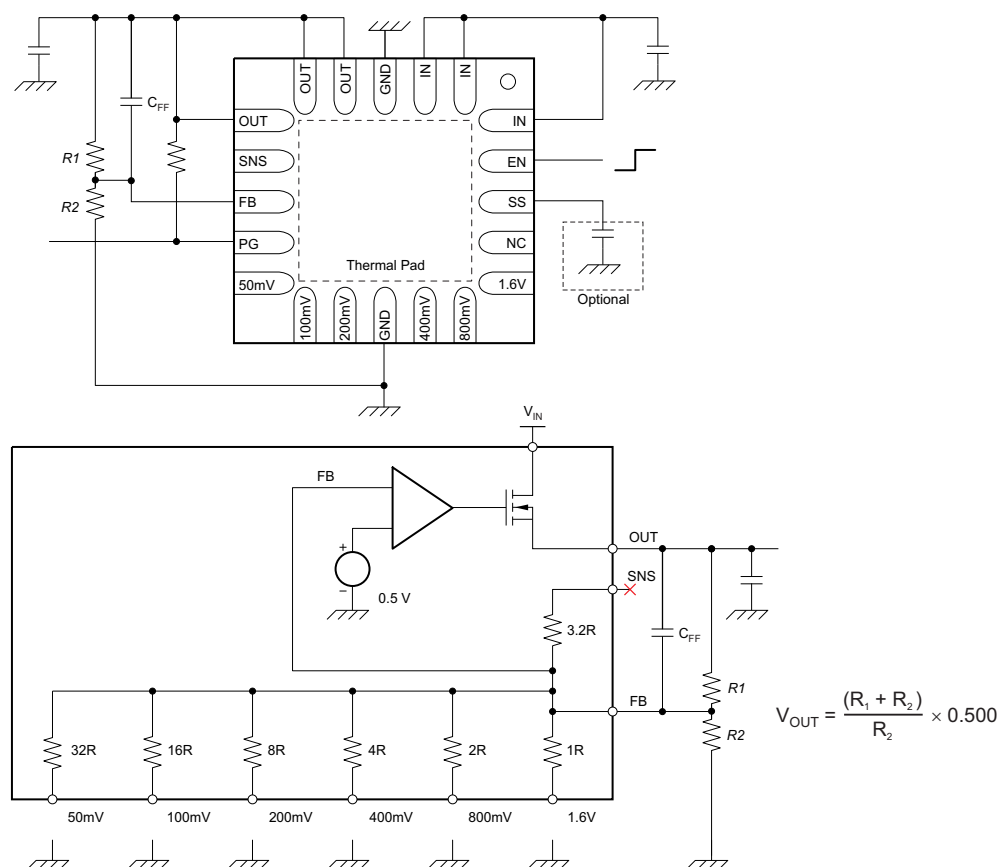

Figure 40. Traditional Adjustable Configuration with External Resistors
For any output voltage target that is not supported in the USER-CONFIGURABLE OUTPUT VOLTAGE section, a traditional adjustable configuration with external-feedback resistors can be used with the TPS7A7200. Figure 40 shows how to configure the TPS7A7200 as an adjustable regulator with an equation and Table 2 lists recommended pairs of feedback resistor values.
The bottom side of feedback resistor R2 in Figure 40 should be in the range of 27 kΩ to 33 kΩ in order to maintain the specified regulation accuracy.
- Added C_{FF} capacitor to Figure 40 16